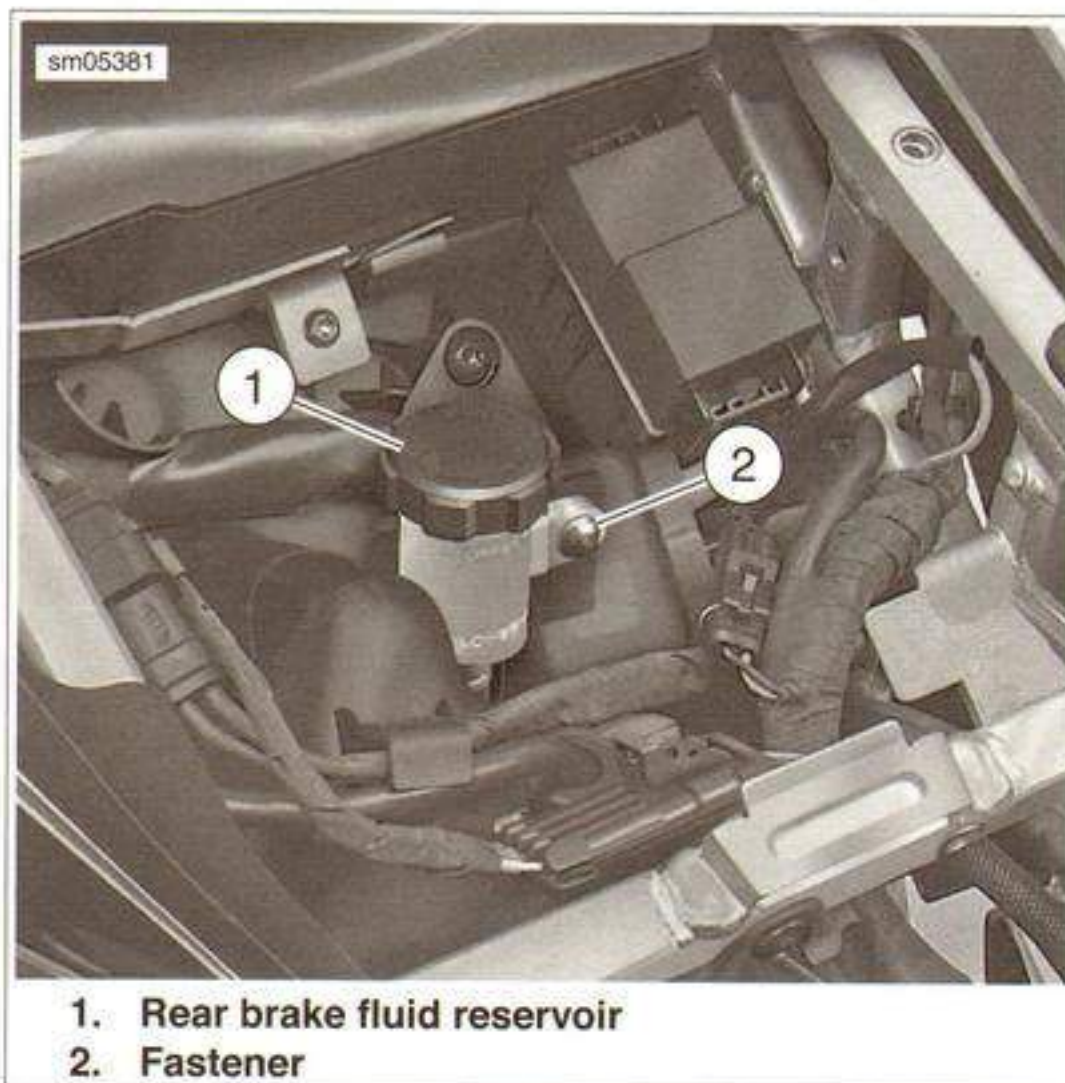

Figure 3-27. Rear Brake Fluid Reservoir
2. See Figure 3-27. Remove the rear brake fluid reservoir fastener and rotate the reservoir to pass through the tail section pan.